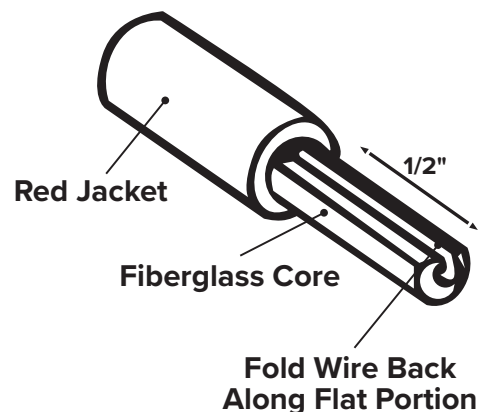

Fig. 2
3. Insert end of fiberglass rod between the upper and lower nylon safety roller guides (Fig. 2). This ensures duct rod will be safely contained while working with it.
Roller Guides (Fig. 2)
3. Using sharp knife, strip away a flat spot on remaining 1" portion of fiberglass core approximately as deep as wire diameter (.04"). Cut exposed wire length to approximately 1" and lightly strip away thin coating on copper wire. Fold wire back along flat spot in fiberglass core (Fig. 2).